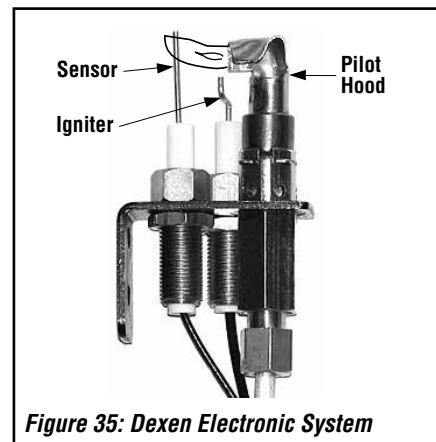

Figure 35: Dexen Electronic System
Step 9. Refer to **Figure 35**. Follow these steps to replace the pilot orifice: